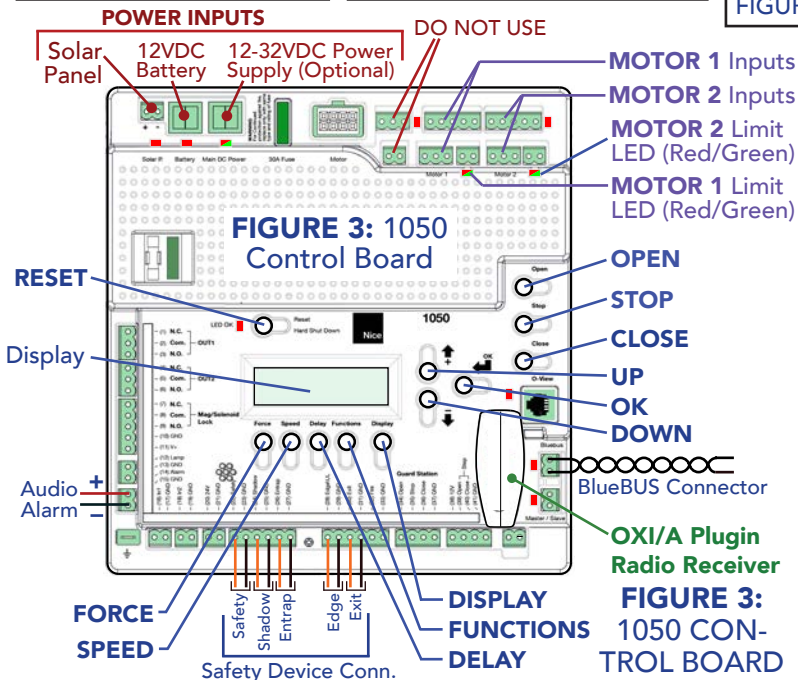

FIGURE 3: 1050 Control Board
- 15** Connect audio alarm, then connect other accessories, such as safety loops, strobes, photo eyes, or other safety devices. See FIGURE 3 below.